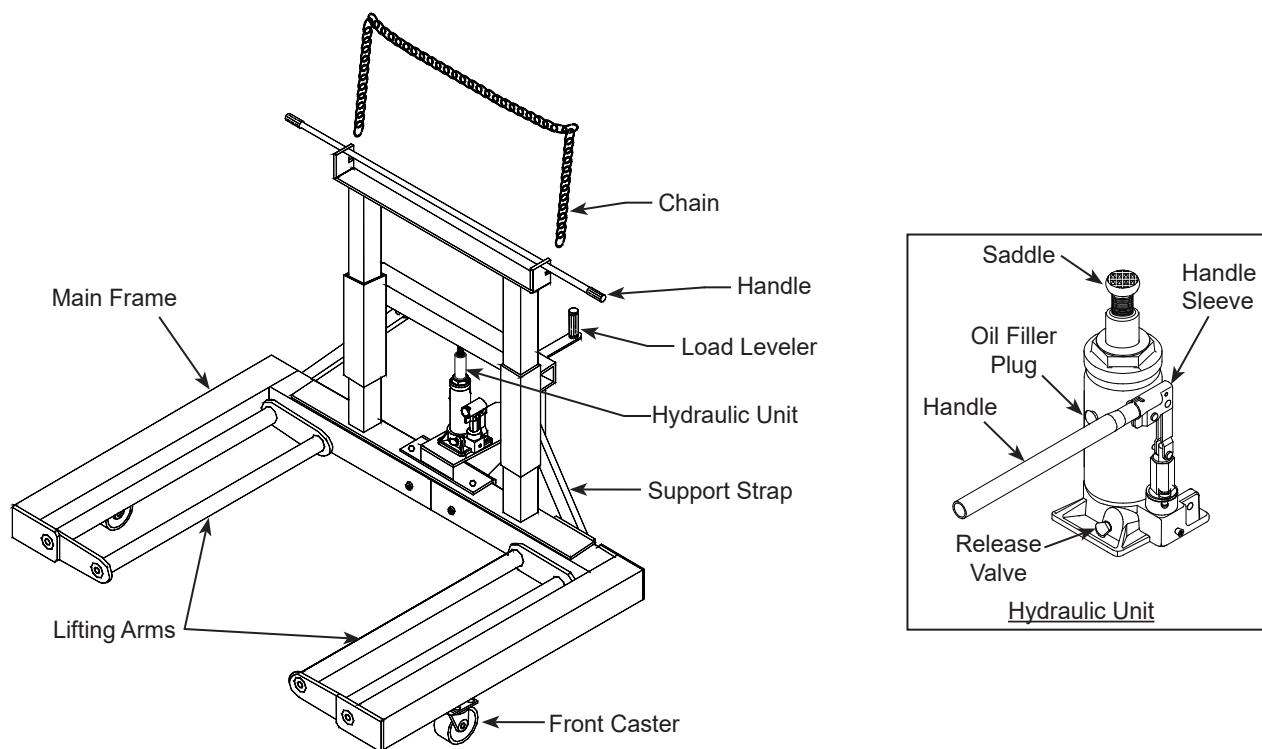

Figure 1 - Wheel Dolly Components
**Assembly** (refer to Fig. 1 & 2)
1. Attach 3 1/2" caster (1) to left and right main frame (2 & 3) with bolts & washers (4).
2. Attach 5" caster (5) to rear support (6), with bolts, washers & nuts (7).
3. Insert left main frame (2) into right main frame (3).
4. Attach upright (8) and rear support (6) into the main frame assembly (2 & 3) with two bolts & nuts (9) and four bolts, washers & nuts (10).
5. Attach support straps (11) to the mounting ears of upright and main frame with bolts, washers and nuts (12).
6. Attach hydraulic unit (13) onto the upright assembly (8).
7. Insert load leveler handle (14) to rear support (6) with pin and cotter pin (15 & 16).
8. Attach the chain (17) onto upright assembly.
1. Verify that the product and the application are compatible, if in doubt call Blackhawk tech. service (816) 891-6390.
3. To familiarize yourself with basic operation; position the hydraulic unit upright as shown in Fig. 1, engage the release valve with the slotted portion of the provided handle, then turn the release valve:
5. Place the hydraulic unit to the wheel dolly as shown in Fig. 1. Position the hydraulic unit such that the saddle mates with the provided indentation.